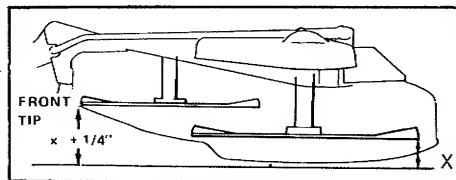

Figure 36. Levelling Mower
note that measurement. (See figure 36).
4. Measure the distance to the ground from the rear tips of the left and right blades. Compare these measurements with the measurement from the front tip of the center blade. The front tip of the center blade should be 1/4 inch (6 mm) higher than the rear tips of the side blades (figure 36).